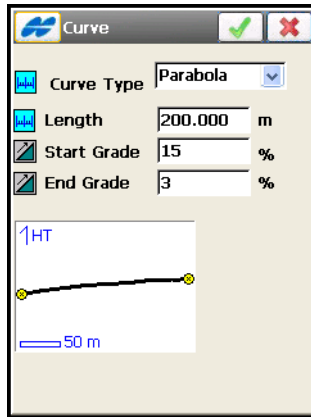

Figure 7-20. Add Vertical Curve
2. On the *Curve* screen (Figure 7-20), select the type of curve to add, either *Circular Arc* or *Parabola*. The plot at the bottom of the screen shows the element appearance.